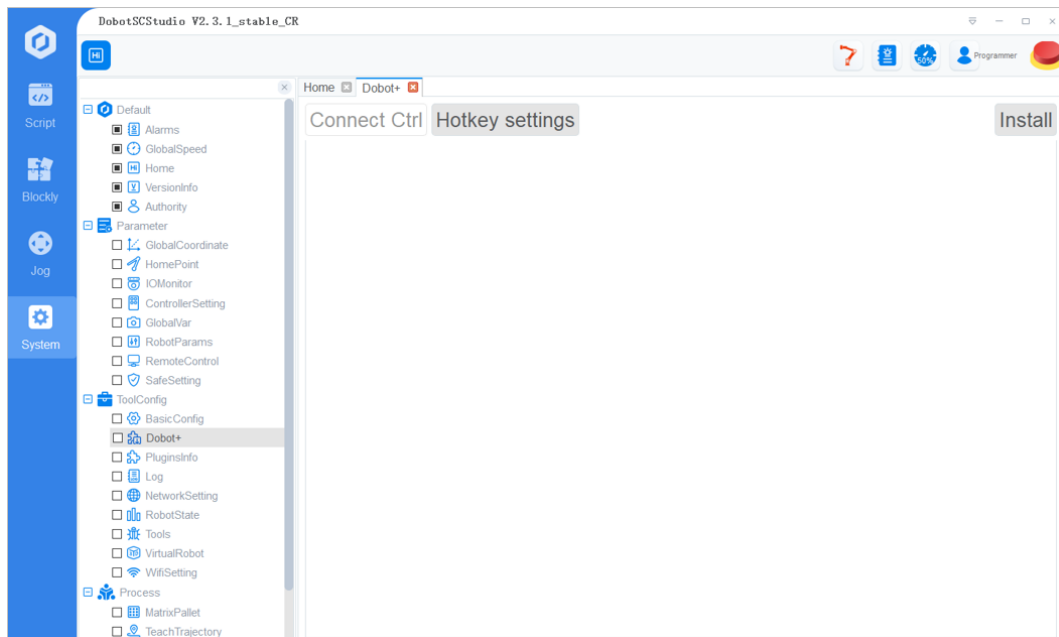

Figure 3.4 Dobot+ page
Step 1 After opening DobotSCStudio and connecting the robot, click **System > Dobot+**, as shown in Figure 3.4.